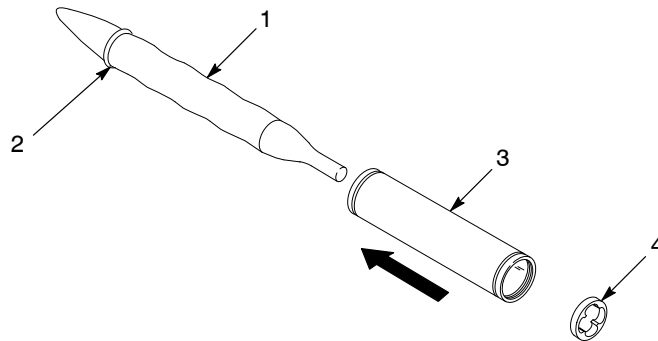

Figure 6-9 Assembling the Inner/Outer Wear Sleeves
3. See Figure 6-9. Push the inner wear sleeve assembly (1) into the outer wear sleeve (3) until the positioning ring (2) seats properly into the outer wear sleeve.
4. Install the new spacing ring (4) over the inner wear sleeve assembly. Seat it in the end of the outer wear sleeve.